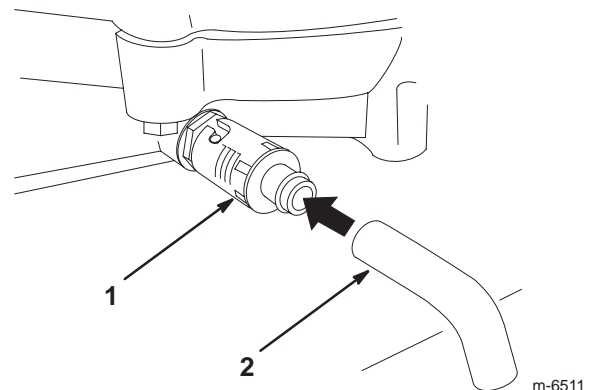

Figure 33
5. Place a pan below the drain hose. Rotate the drain valve to allow the oil to drain (Fig. 33).
6. When the oil has drained completely, close the oil drain valve and remove the drain hose (Fig. 33).